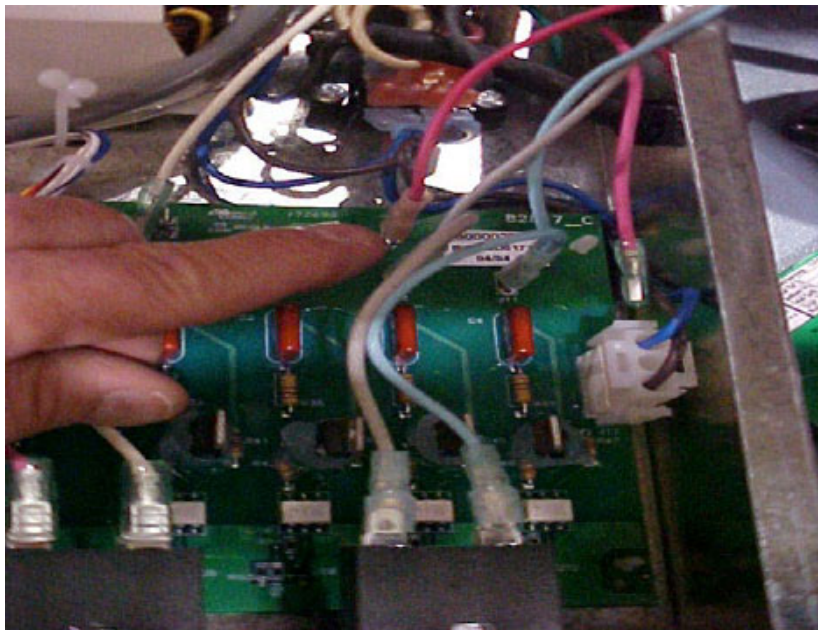

Figure 3: grey, blue, and red conveyor wires removed from control board
- 4) Remove the grey, blue, and red conveyor wires from the control board (see Figure 3)